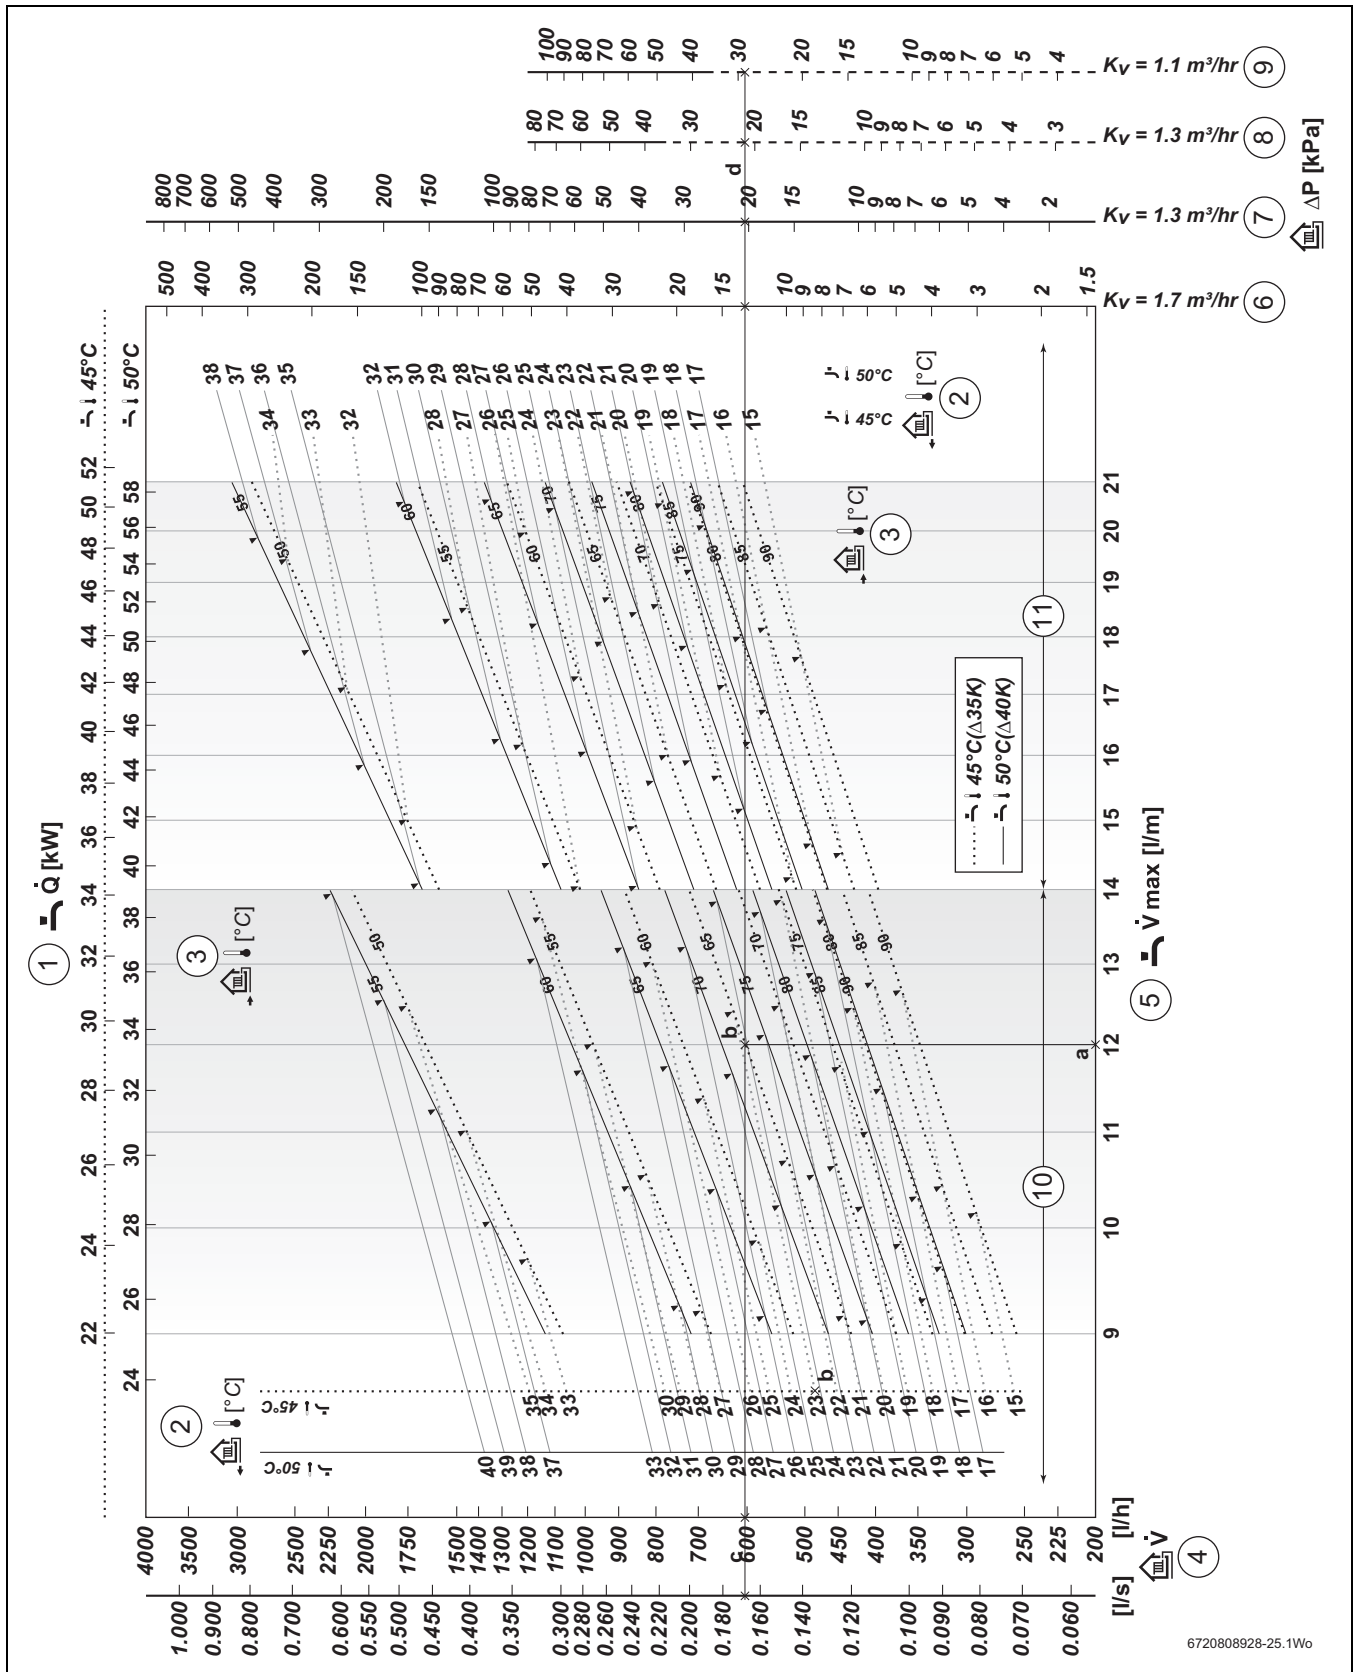

Fig. 53 Domestic hot water performance
Key to Domestic hot water performance chart, Figure 53:
The domestic hot water performance chart, (figure 53, page 38) shows an example for calculating the domestic hot water performance.
- ▶ For a known district supply temperature, determine the nominal district flow rate and supply differential pressure required to achieve the requested domestic hot water output from either figure 53 or 54 as appropriate.
- If the nominal district flow rate cannot be achieved, check the differential pressure across the district flow and return adjacent to the Heat Interface Unit. Ensure that the actual differential pressure measured corresponds to the nominal differential pressure from figure 53 or 54.
- $Q_{dhw} \text{ (kW)} = 0.07 \times \text{dhw flow rate (l/min)} \times \text{temperature rise (K)}$
- $Q_{ch} \text{ (kW)} = 0.07 \times \text{ch flow rate (l/min)} \times \text{Delta T (K)}$